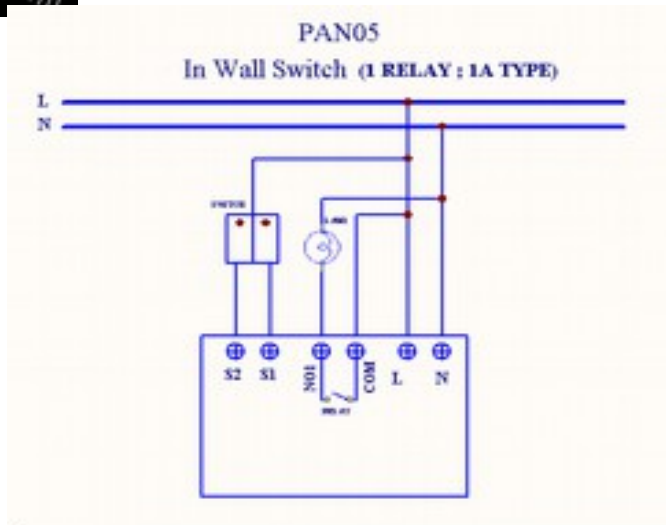

Fig 1. Assembling
2. Connect the wall switch to the PAN05 as Fig1 .